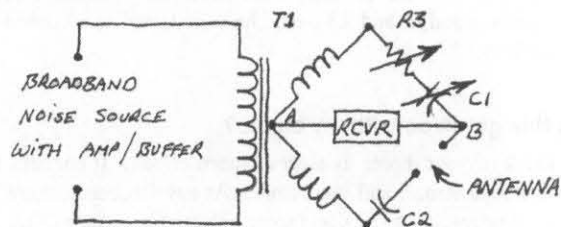

FIGURE 3.
Pappot's circuit is shown in figure 3. Notice the addition of the variable capacitor C1 in the same bridge leg as variable resistor R3. Also note that a fixed capacitor C2 is now included in the unknown, or antenna leg of the bridge. The variable capacitor in this design is 140pf, while the fixed capacitor is half that, or 70pf.
$$\text{Figure 3 } P(\text{Rx, milliwatts}) = \frac{(570) (PT) (GTA) (GRA)}{(F)^2 (R)^2}$$
One can derive an equation that expresses the power at a receiver as a function of the transmitted power, frequency and antenna gain at both ends of the path. Figure 3 shows the equation. PT is the transmitter output power in milliwatts, GTA is the antenna gain at the transmitter, GRA is the antenna gain at the receiver, F is the frequency in MHz, and R is the distance between stations in meters. The equation is derived for free space between the two antennas. Both gains should include feedline loss and are expressed as ratios rather than decibel (dB) figures. The gains are with respect to an isotropic radiator.